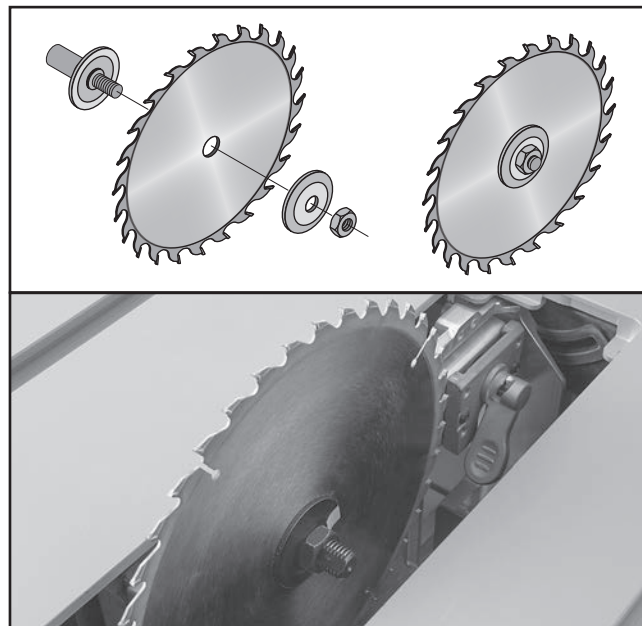

Figure 31. Correct order of installation with teeth facing the correct direction.
5. Install new blade, flange and arbor nut on arbor, as shown in **Figure 31**, with teeth facing front of the saw.